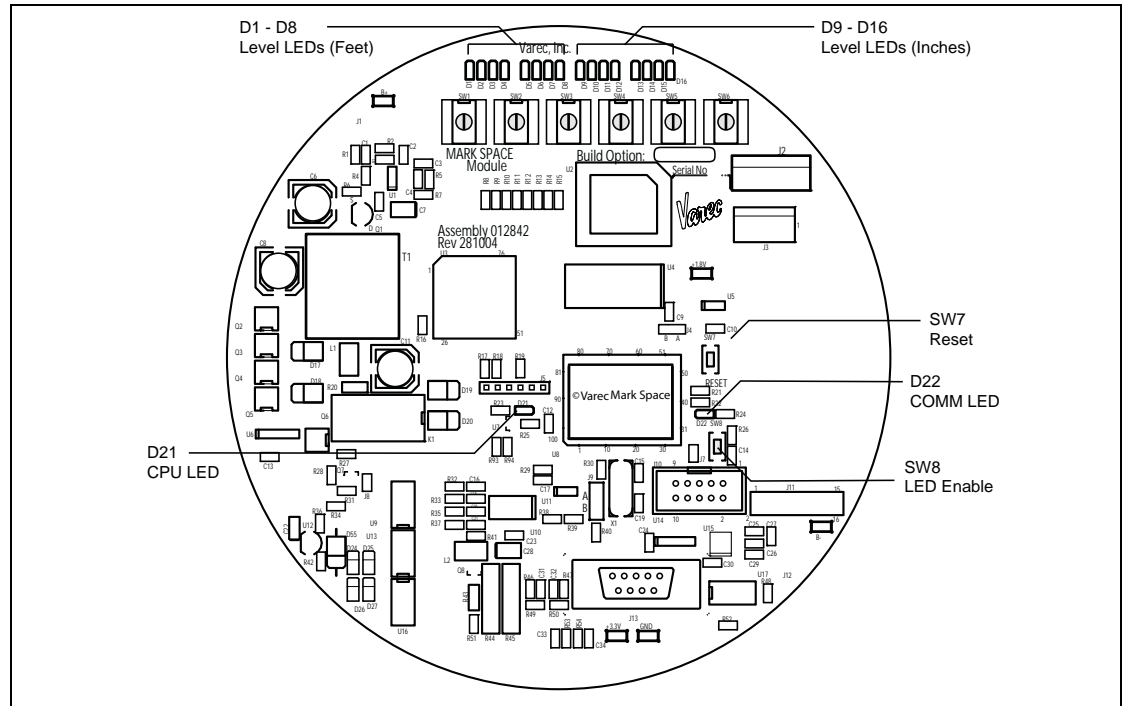

Figure 9-12: Communications Board Diagnostic Switches and LEDs (Mark/Space shown)
2. Press switches SW7 and SW8 simultaneously. See Figure 9-12 for switch locations.
2. Press RESET switch SW7 (see Figure 9-12) to restart the application program.